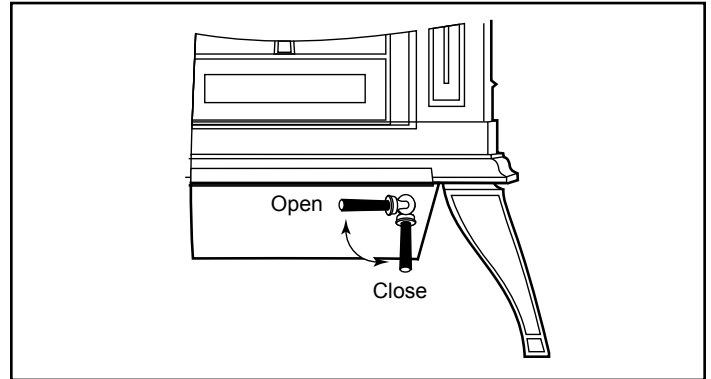

Fig. 40 - Turn the ashdoor handle clockwise to open and counterclockwise to close.
- Close the griddle or doors, and unlatch the ash door. (Fig. 40) It will pivot, swinging the ash pan out of the stove.
- Return the ash pan to its original position in the stove, and close and latch the ash door. (Fig. 40)